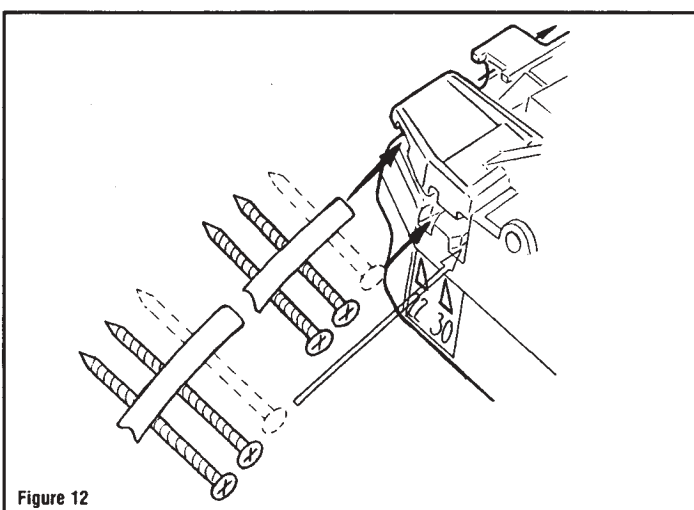

Figure 12
**(g) Screws of Different Lengths** - Screws ranging from 1" to 3" can be driven with your tool. The plastic tape location of collated Muro VISROPE is either 22mm or 30mm down from the head of the screw. The respective position depends upon the length of the screws being driven. Screws ranging from 1" to 1-3/4" are collated at 22mm, while the longer screws from 1-3/4" to 3" are collated at 30mm. The tool is designed so that the plastic will always be in the same position on the feeder block. When loading your VISROPE be sure to feed the screw head into the appropriate slot as in figure 12.